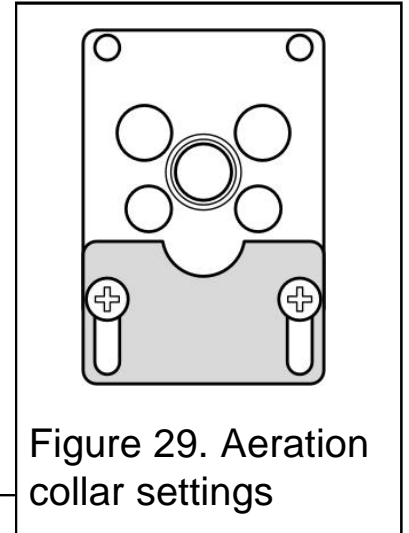

Figure 29. Aeration collar settings
1. The aeration collar is factory set for use with a ‘pebble’ ceramic fuel effect. It is important to ensure that the aeration setting is correct for the ceramic fuel effect used. Check the aeration collar setting even if fitting the ‘pebble’ fuel effect. (See figure 29).